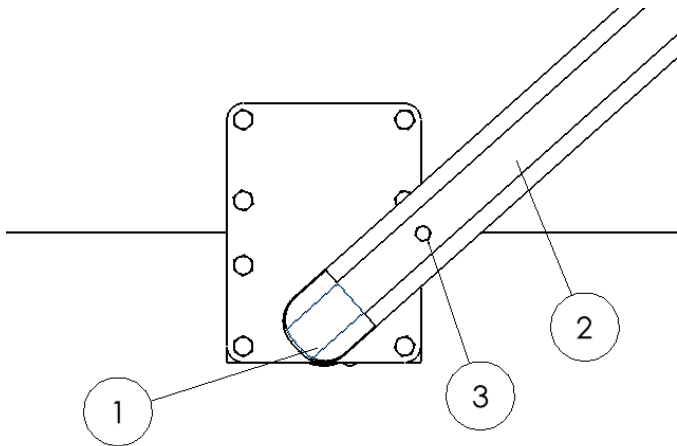

Figure 3.9
With the pivot casting (1) pointing to the rear of the dump box, slide the side arm (2) on to the pivot casting and secure it using the supplied 1/4" x 2-1/4" hex bolt (3) and hex nut. (Figure 3.9)